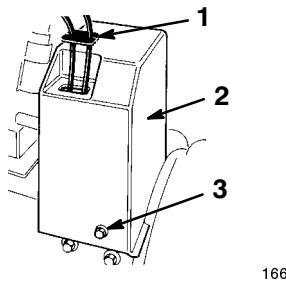

Figure 5
15. Slide the cable cover onto the cables and into the hole in the belt cover (Fig. 5).